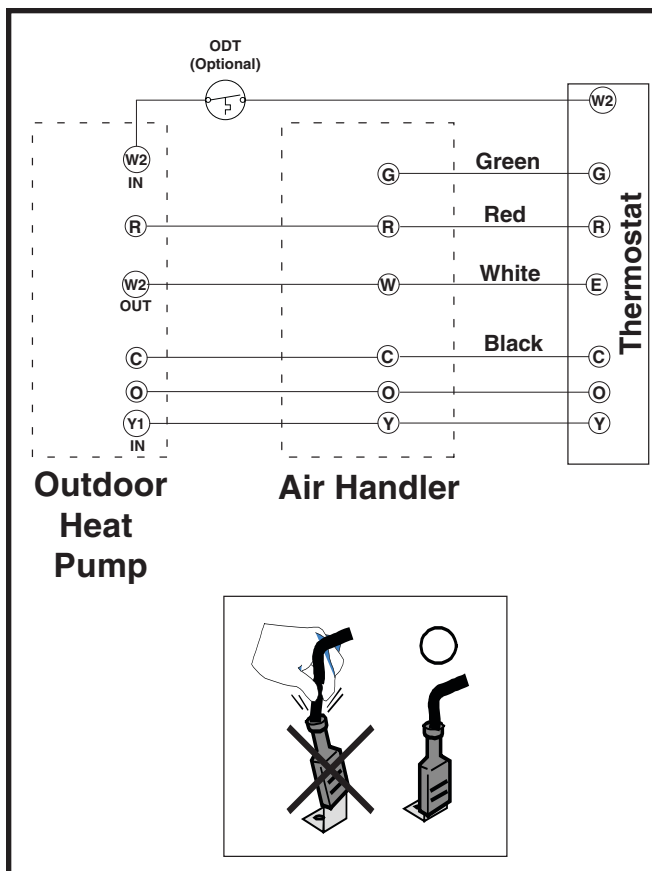

Figure 4. Typical Thermostat Connections
- Thermostat connections should be made in accordance with the instructions supplied with the thermostat and the indoor equipment. A typical installation with a heat pump thermostat and air handler is shown in Figure 4.